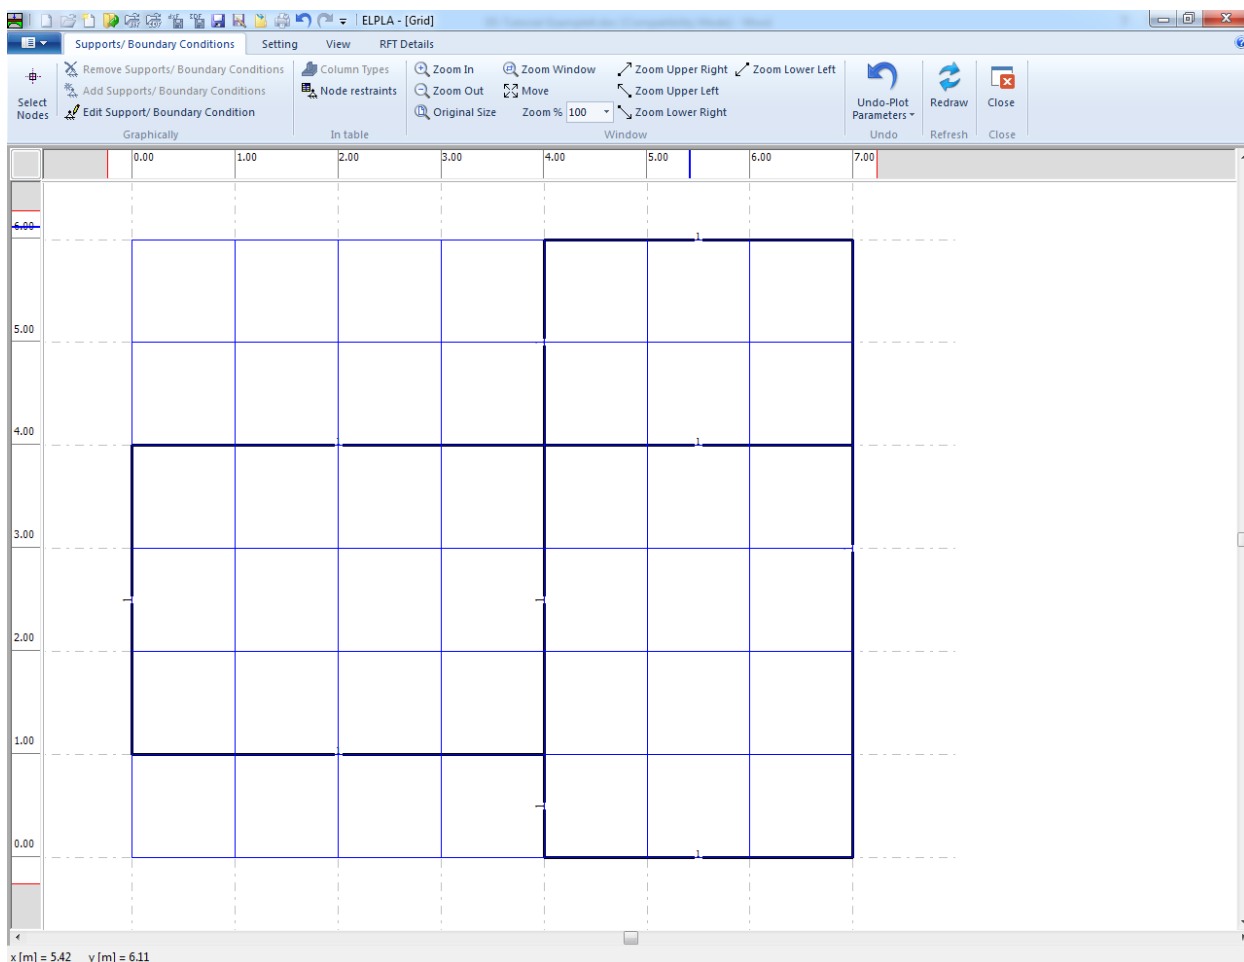

Figure 4.20 Girders are drawn in simple lines
After clicking "OK" in the "Plot Parameters" dialog box the girders are drawn as simple lines as shown in Figure 4.20.
- Choose "Select Nodes" command from the "Graphically" menu in Figure 4.20. When "Select Nodes" command is chosen, the cursor will change from an arrow to a cross hair